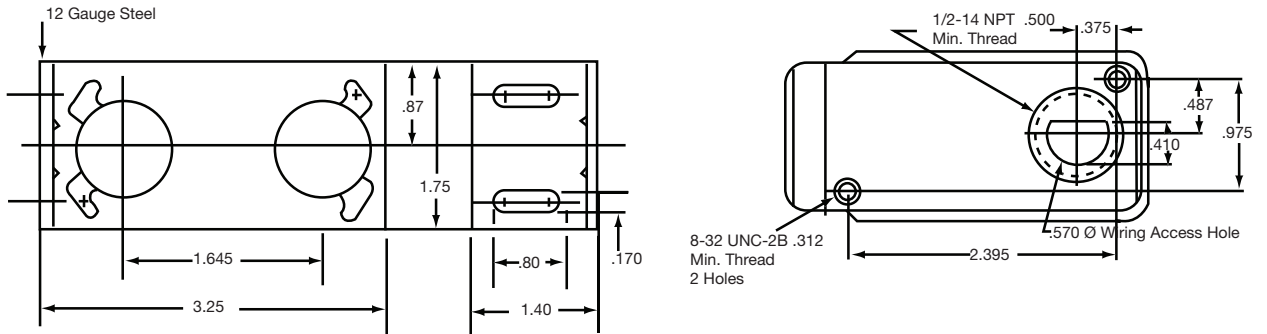

Figure 4
1. Mount the base securely on a firm support using the two screws provided with the threaded #8-32 holes in the unit's base. See mounting dimensions. Figure 4.
2. Loosen the screw on the top cover so that the clear dome will swivel freely, exposing the adjustments. Set the sensitivity adjustment to maximum by turning the potentiometer fully clockwise as shown in Figure 4 and connect the 120 VAC leads to the proper terminals. (Caution: Use wire with insulation suitable for 120 VAC.) Plug one of the output modules listed under the module options into the base. The visible LED indicator on top of the scanner will light when the infrared beam is completed from the source to the sensor.